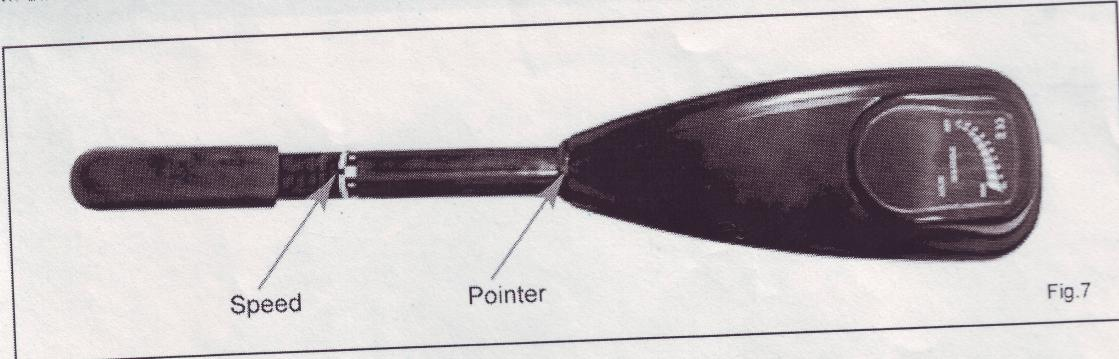

Fig.7
2. The motor offers a choice of five forward and three reverse speeds. The scales on the twist grip handle represent a percentage of maximum thrust. Roll the handle when you hear "Click", that means you have reach one speed. (See Fig.7)